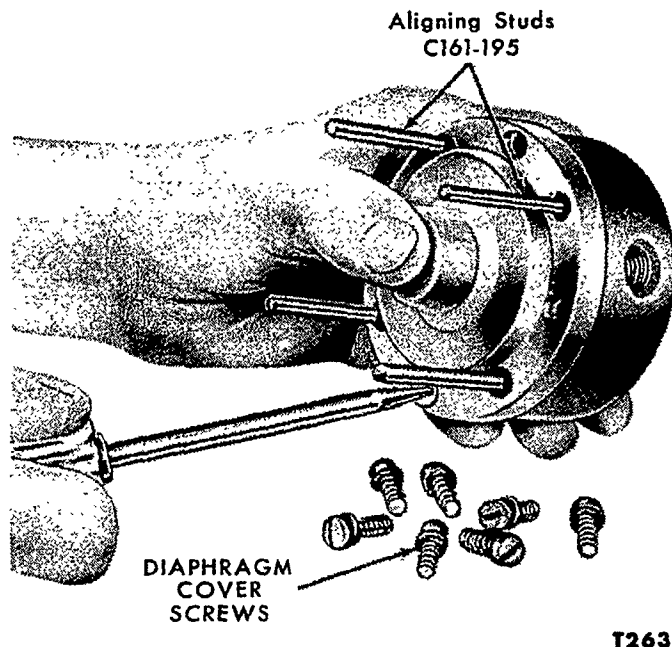

Figure 21—Removing Diaphragm Cover
- to the vaporizer body (13). Separate the coil from the body and discard "O" rings (2) and (6).
- Remove every other one of the four diaphragm cover attaching screws (19). Install four Aligning Studs C161-195 as shown in Figure 21. Maintain pressure on the diaphragm cover and remove the four remaining screws.